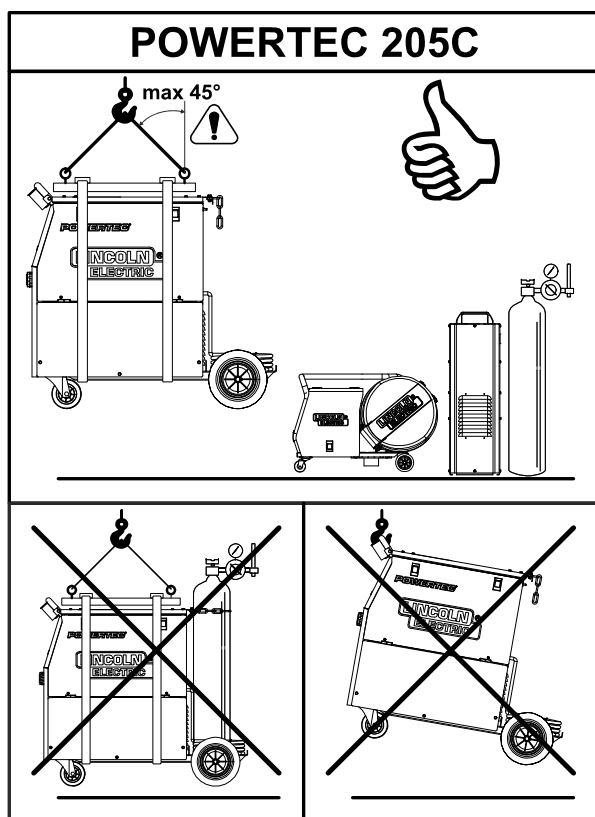

Figure 20.
To safely transport and lift POWERTEC® 205C (see the Figure 20):
- Use equipment of adequate capacity to lift and support unit. Use a travers and minimum two belts as is shown of Figure 20.
- Apply load axially in 45 degree angle in accordance to the Figure 20.